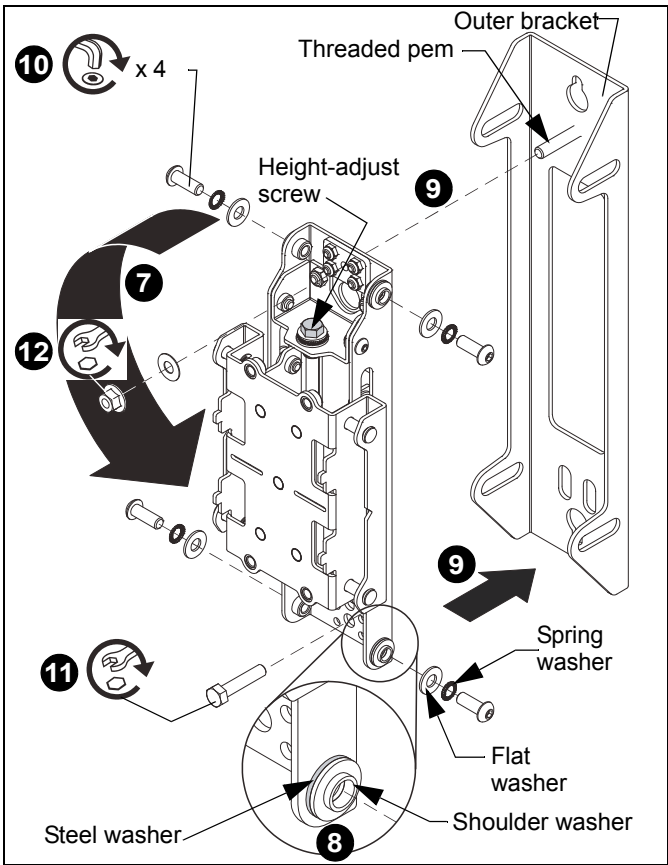

Figure 6
- 7. Rotate wall assembly so that height-adjust screw is at top of wall upright assembly. (See Figure 6)
- 12. Replace and tighten flanged nut and washer onto threaded pem at top of wall upright. (See Figure 6)